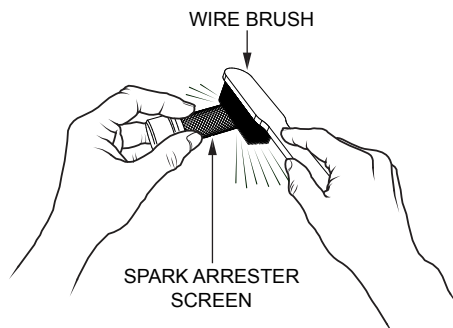

Figure 37. Cleaning The Spark Arrester
4. Carefully remove carbon deposits from the spark arrester screen (Figure 37) with a wire brush.